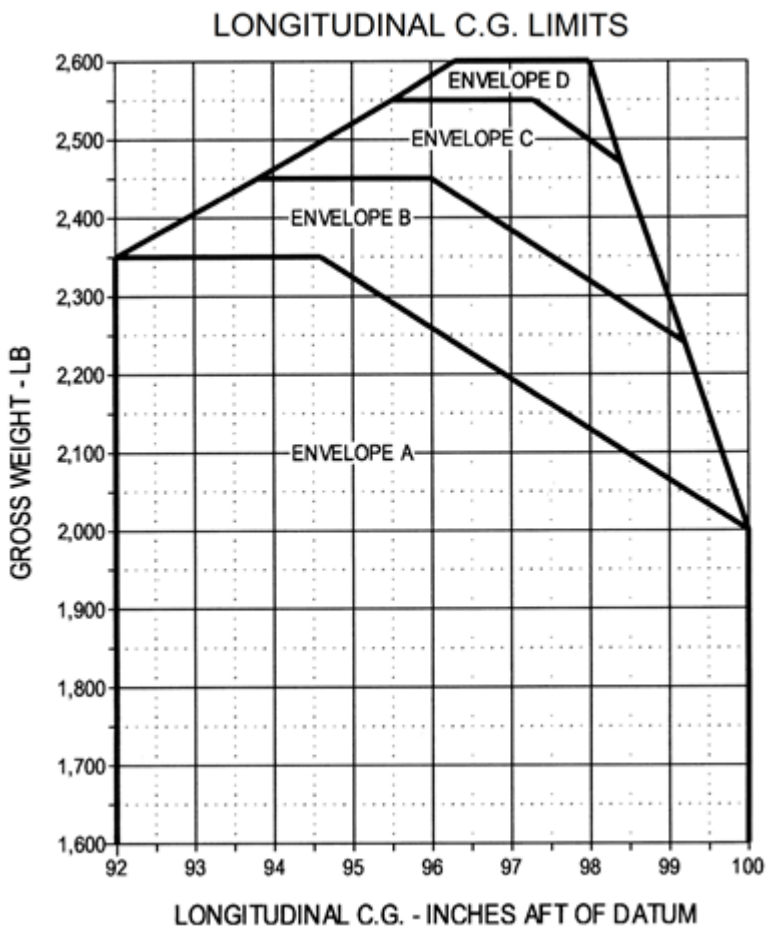

Figure 6-1. Longitudinal CG Envelopes
The solid V_{NE} /altitude curves shown in Figure 5-1 apply only to operation with the c.g. within the appropriate areas shown in Figure 6-1.
Use Figure 6-1 to determine actual location of c.g.
- b. Longitudinal c.g. range variable with gross weight from 92.0 inches to 100.0 inches (reference Figure 6-1).